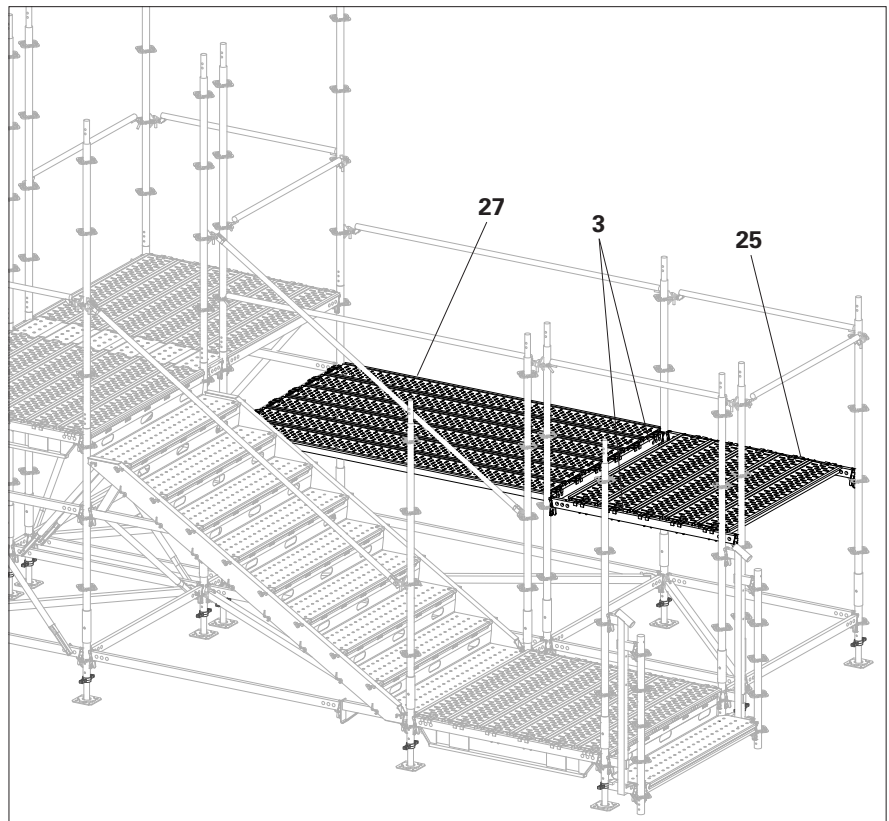

Fig. B2.07a
4. Install 5 x Steel Deck UDG-2 25x150 (**25**) one metre above the base level. (Fig. B2.07a)